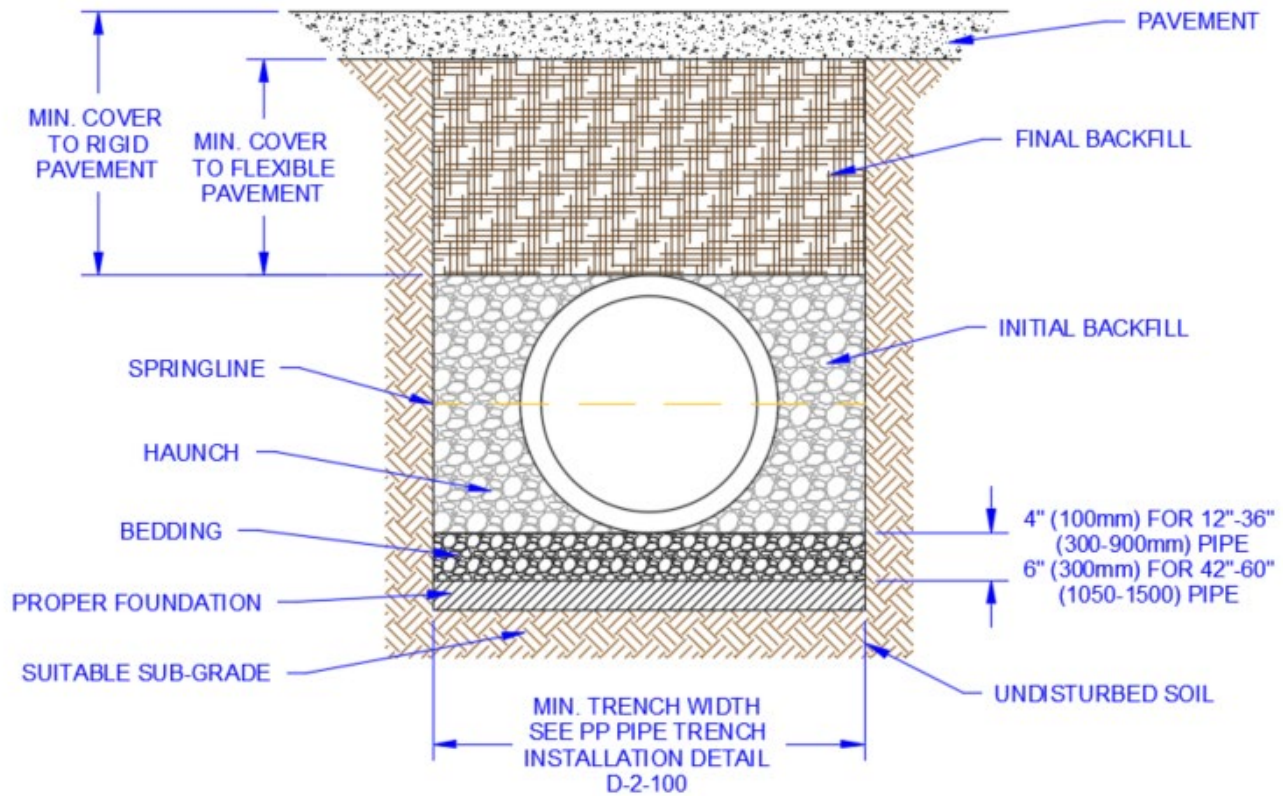

Figure 1: PP Dual Wall Standard Trench Cross Section
All cover heights provided in this document assume a standard trench installation, as shown in Figure 1 below. Refer to GOLDPRO Storm Trench Installation Detail D-2-100 for more information about installation requirements.
Note: Minimum covers for AASHTO HL-93, H-25 or HS-25 traffic loads, Class III backfill material compacted to 95% standard Proctor density around the pipe. Refer to GOLDPRO Storm Trench Installation Detail D-2-100 (Figure 1) for more information about installation requirements.
- 3) Installation is assumed to be a trench installation (see Figure 1) in accordance with ASTM D2321 and Prinsco's *Stormwater Installation Guide* and as outlined in the *Structures Design Guide*.
- 3) Installation is assumed to be a trench installation (see Figure 1) in accordance with ASTM D2321 and Prinsco's *Installation Guide*. Backfill material must be uniformly distributed around the pipe and between the corrugations. Refer to the *GOLDPRO Storm Trench Installation Detail D-2-100* and *Structures Design Guide* for more information.